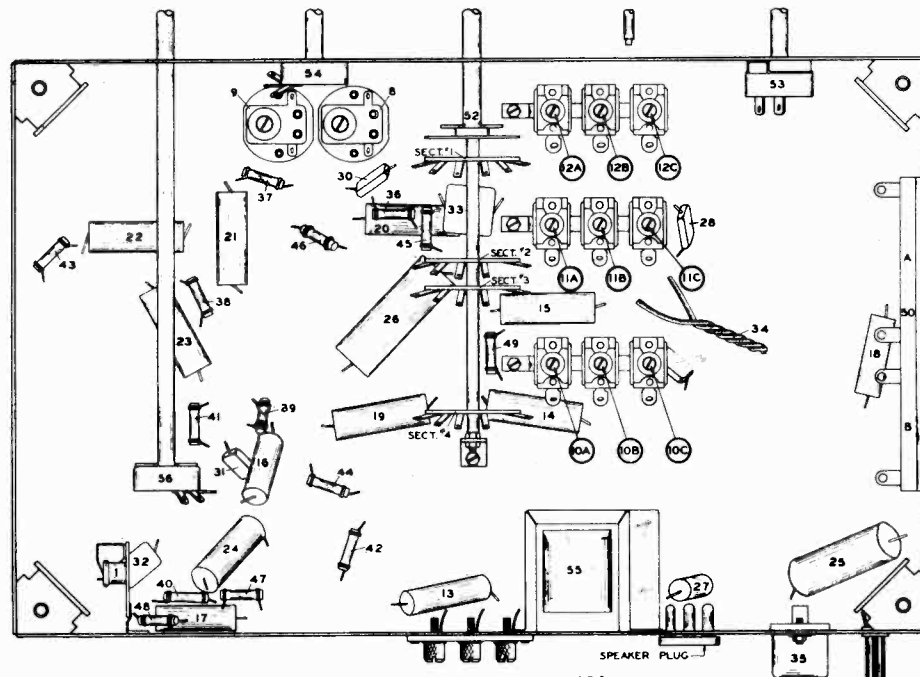

FIG. 3--PARTS LAYOUT--Bottom View
- (c) Adjust the oscillator tracking condenser (Illus. #24 on Fig. 3) located on the bottom of the chassis until the 540 K.C. signal is tuned in with maximum output.
- (b) Adjust the antenna compensating condenser for maximum response from the broadcast station. This condenser is shown as Illus. #23 on Fig. 3 and is located immediately to the rear of the speaker plug on the side of the receiver.